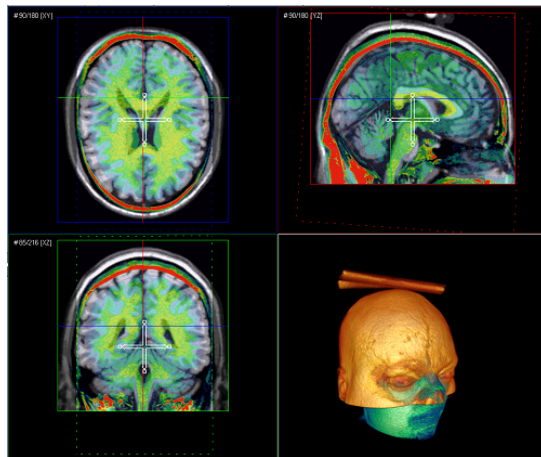

Figure 17.4: Manually registered patient data shown in the *Multiplanar Viewer*
- In the YZ [Sagittal] viewer use the rotate functionality of the manipulator to tilt the patient image by a few degrees clock-wise. Finally, use the translate functionality to center the (smaller) patient brain within the (larger) reference brain. The manually registered images should look similar to Fig. 17.4.